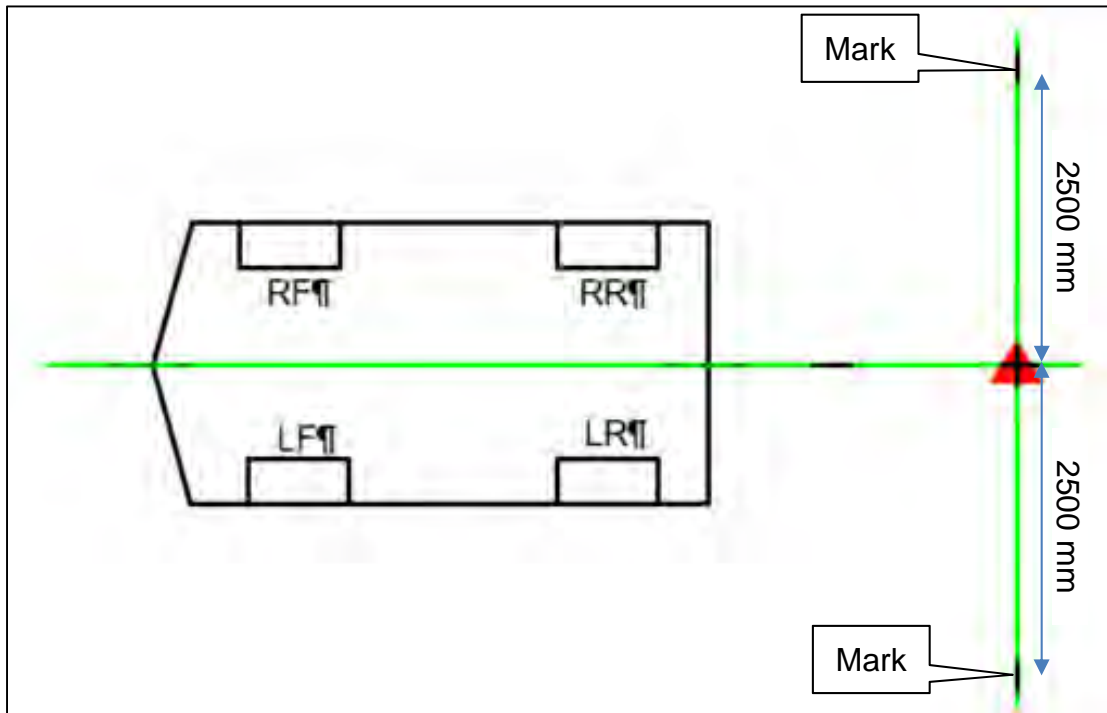

Figure 77
53. Measure and place a mark 2500 mm to the left and to the right of the laser level, as shown in Figure 77.